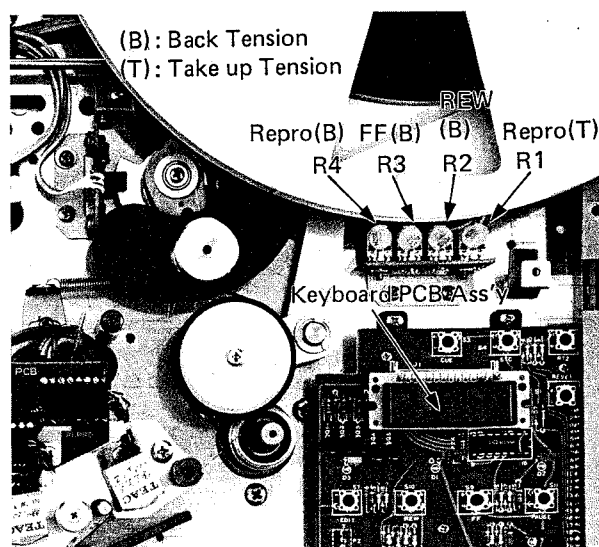

Fig. 7-18. Tension Adjustment Trimmer
4. If adjustment of the interval is necessary, adjust by adjusting the trimmer resistor located on the upper part of the keyboard PCB assembly. Refer to Fig. 7-18.